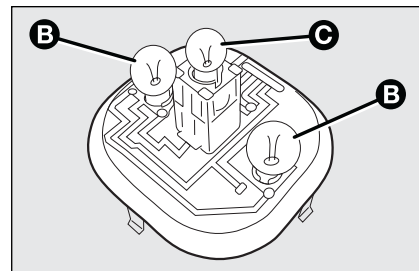

fig. 26
**REAR LIGHT UNITS fig. 26**
The bulbs are arranged inside the light unit **fig. 26** as follows: